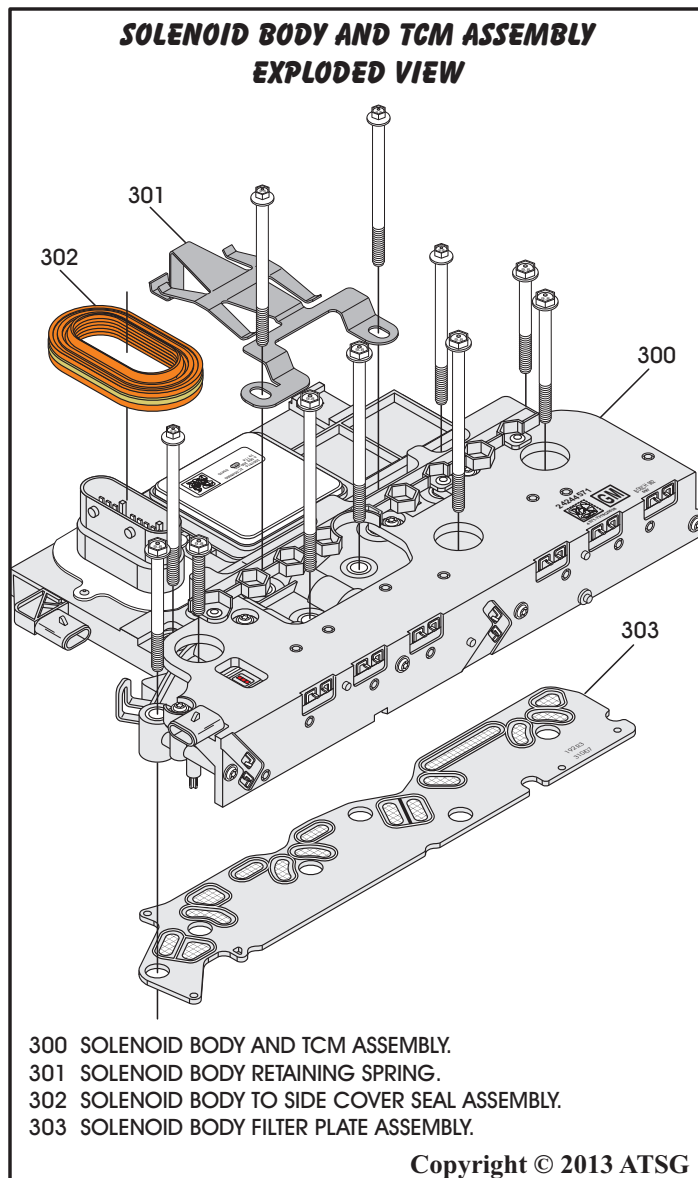

Figure 164
1. Remove the solenoid body filter plate assembly, as shown in Figure 164.
2. Remove and discard the solenoid body to side cover seal assembly, as shown in Figure 164.